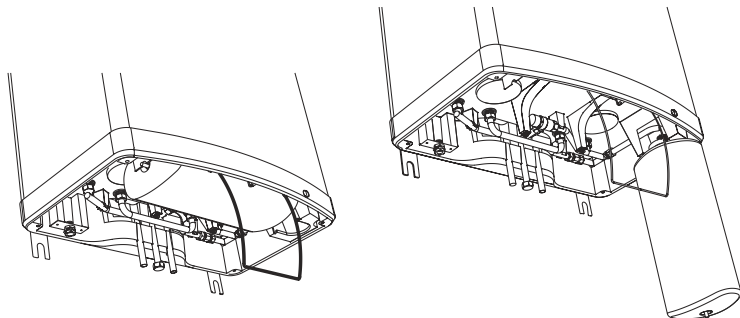

Figure 6. Removal of expansion vessel for maintenance purposes.
- 8.5 Unclip the expansion vessel retaining clip and locate the expansion vessel into the nest detail at the front on the right (see Figure 6 overleaf).